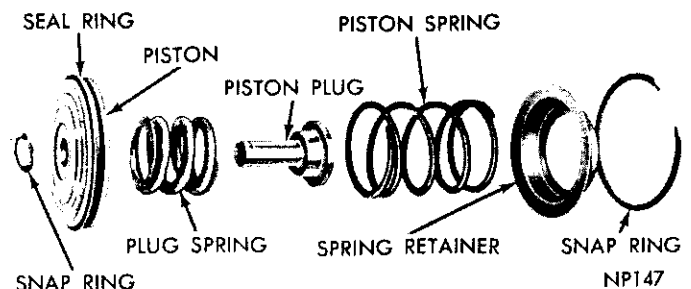
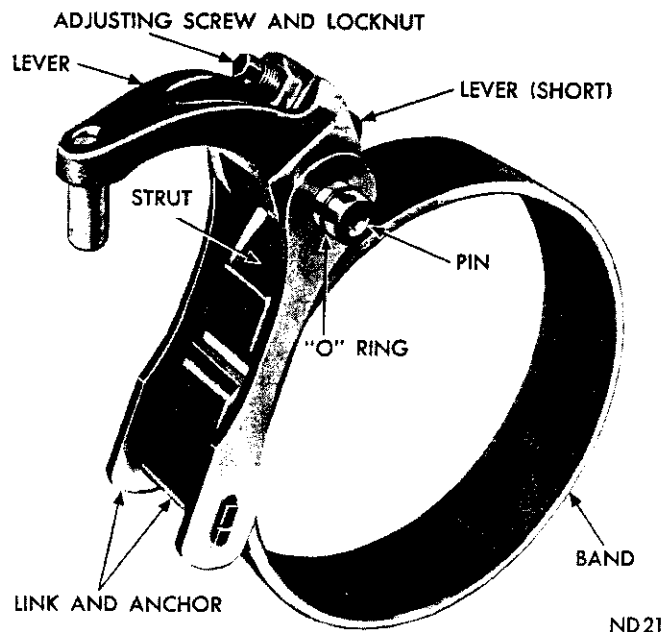

Fig. 82—Low and Reverse Servo
Fig. 84—Low-Reverse Band and Linkage
(1) Remove snap ring from piston and remove the piston plug and spring (Fig. 82).
(1) Carefully work servo piston assembly into the case with a twisting motion. Place spring, retainer and snap ring over the piston (Fig. 82).
(2) Compress low and reverse servo piston spring by using engine valve spring compressor Tool C-3422, then install snap ring.
(3) Position rear band in the case, install short strut, then connect long link and anchor to the band (Fig. 84). Screw in band adjuster just enough to hold strut in place. Install low-reverse drum.